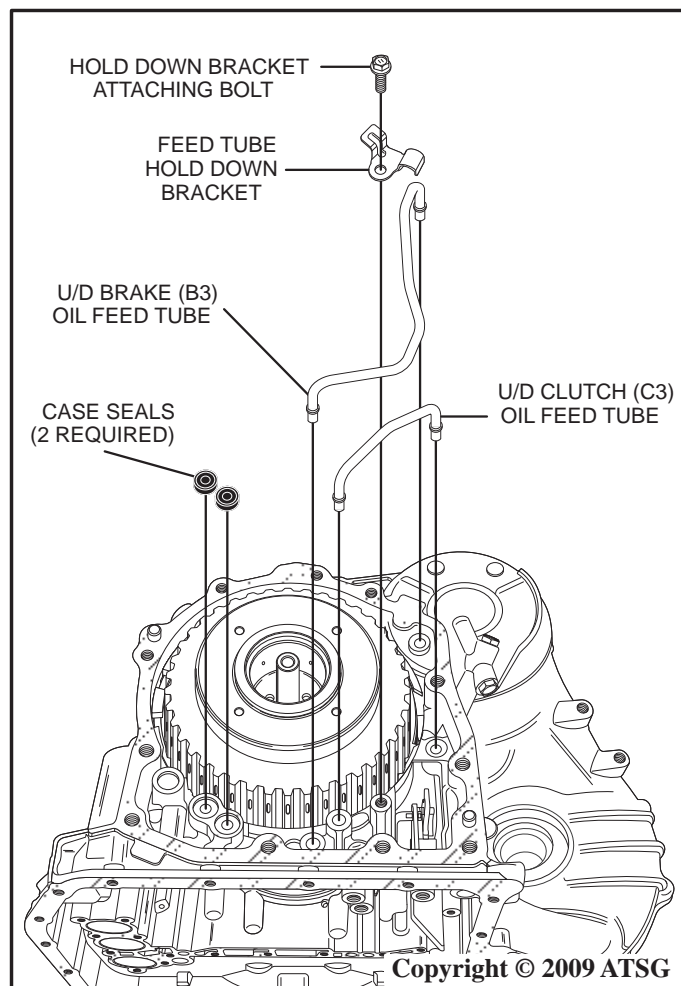

Figure 174
56. Install the U/D clutch (C3) oil feed tube with a small plastic hammer as shown in Figure 174.
57. Install the U/D brake (B3) oil feed tube with a small plastic hammer as shown in Figure 174.
58. Install the two case seals using a small amount of Trans-Jel® to keep the seals in place as shown in Figure 174.
59. Install the feed tube hold down bracket as shown in Figure 174.
60. Install the feed tube hold down bracket attaching bolt as shown in Figure 174.